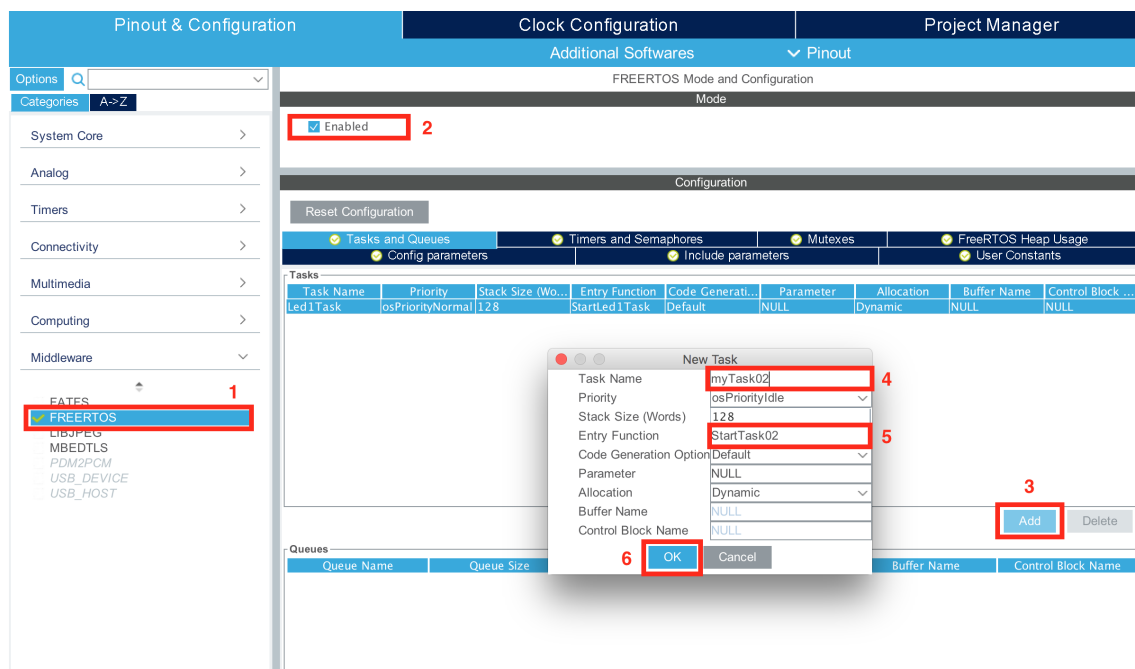

Figure 6: STM32CubeMX Project Configuration for FreeRTOS Support
2. Add FreeRTOS to the project as described below in Figure 6